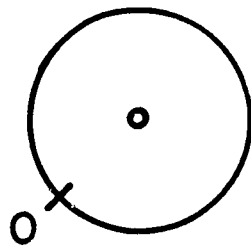

Fig. 3 Position of CONSTANT knob for various signal magnitudes
- (12) Connect the INPUT terminal on the VOLTMETER to one of the CONSTANT terminals on the ANALOG.
- (15) Return the CONSTANT knob to its zero position. The position of the pointer on the CONSTANT knob should be approximately in the position shown in Fig. 3.
- (16) Reset the zero position on the voltmeter if necessary.
- (*17) Slowly rotate the CONSTANT knob to the right until you obtain a signal magnitude of +1 volt. Use the 2.5 RANGE on the meter. Show on Fig. 3 the approximate position of the CONSTANT knob pointer for the one volt output signal. Indicate on the figure that the position represents 1 volt.
- Now rotate the CONSTANT knob until the signal is +2 units. Mark and identify this knob position on Fig. 3. Repeat this procedure for CONSTANT signal amplitudes of 4, 6, and 8 units and for the maximum amplitude available. Use the proper RANGE setting on the VOLTMETER.
Observe that you had to turn the knob much further to change the signal amplitude from 0 to 4 volts, for example, than you did to change it from 4 to 8 volts. This property in which equal increments of rotation of the knob do not produce equal incremental changes in output signal is called a NON-LINEAR characteristic. If the CONSTANT knob had a LINEAR characteristic, the 2 volt increments in signal amplitude would be evenly spaced around the circle in Fig. 3.